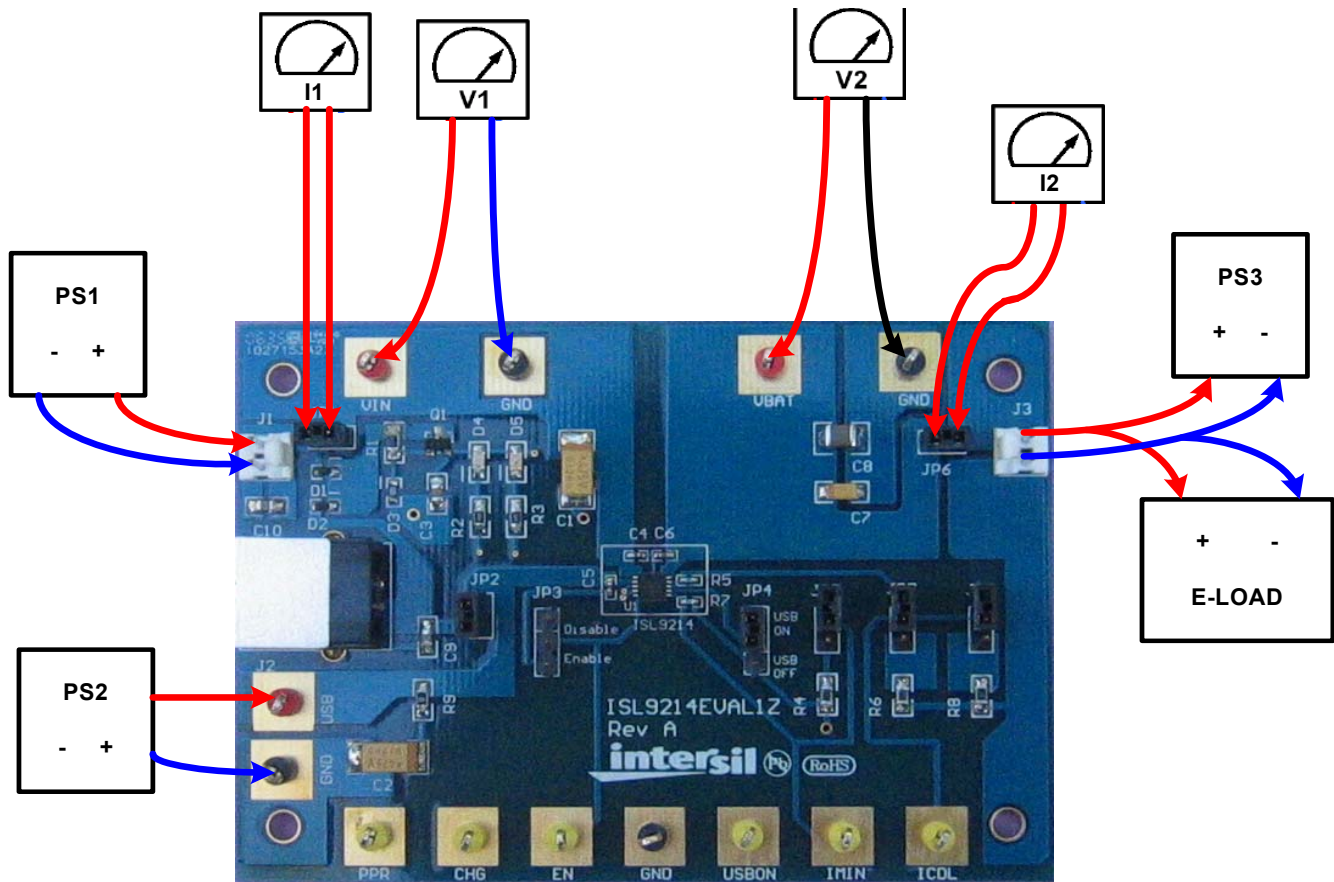

FIGURE 1. CONNECTION OF INSTRUMENTS
## Quick Setup Guide (Refer to Figure 1)
- Step 3: Connect a current meter to JP6, as shown in Figure 1
- Step 4: Connect a current meter to JP6 as shown in Figure 1
**JP1** - A shunt installed on JP1 connects the input source from connector J1 to the circuit if input current measurement is not needed. The shunt can be replaced by a current meter if input current measurement is needed, as shown in Figure 1.
**JP6** - A shunt installed on JP6 connects the BAT pin to the output connector J3 if output current measurement is not needed. The shunt can be replaced by a current meter if output current measurement is needed as shown in Figure 1.